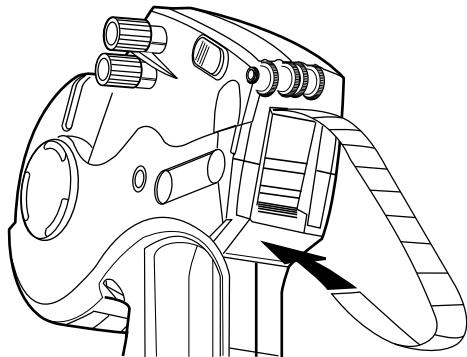

Figure 6
7. Squeeze and hold the trigger while feeding the label strip under the roller and into the large slot above the arrow until it stops/hits the back. (See Figure 6)